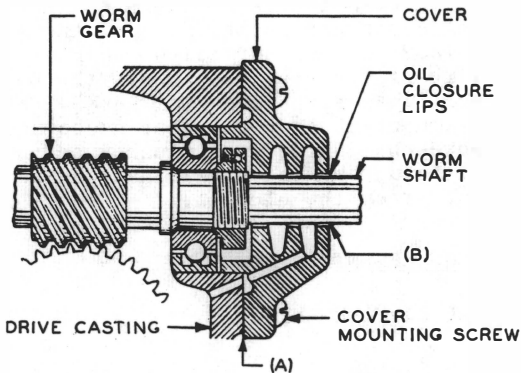

Fig. 1 - Sealed Joints and Oil Closures (All Drives Except No. 31A Drive)
2.02 Leakage at Sealed Joints: Fig. 1(A), 2(A), and 3(A)
2.03 Leakage at Oil Closures: Figs. 1(B), 2(B), and 3(B)